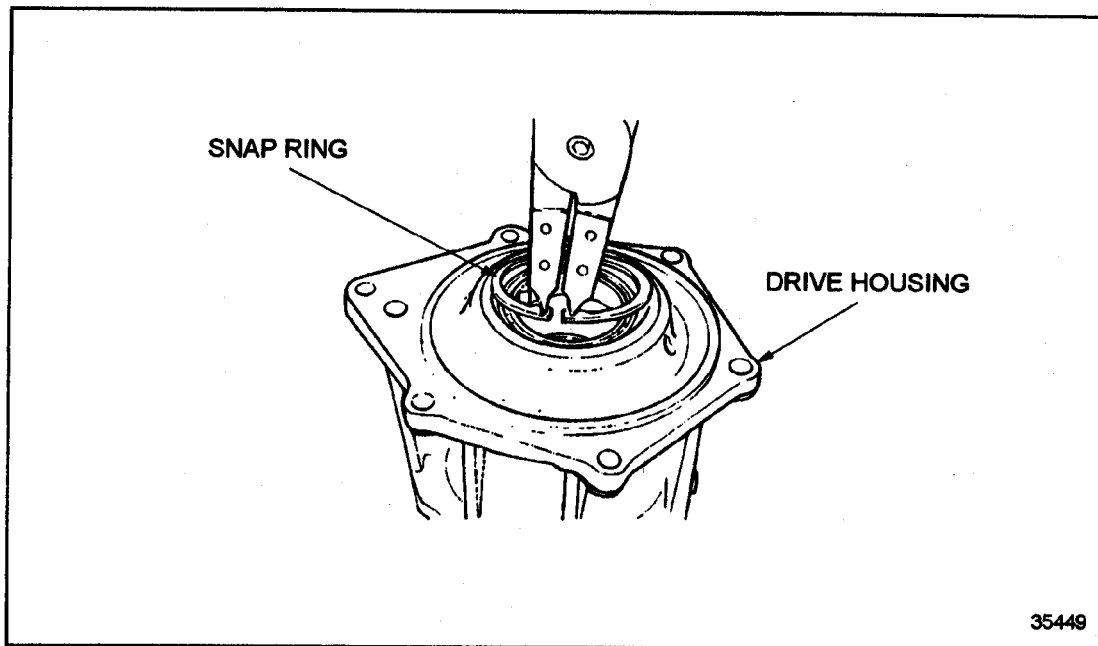

Figure 10-27 Snap Ring Installation
4. Install the snap ring retaining the roller bearing in the drive housing using snap ring pliers. See Figure 10-27.